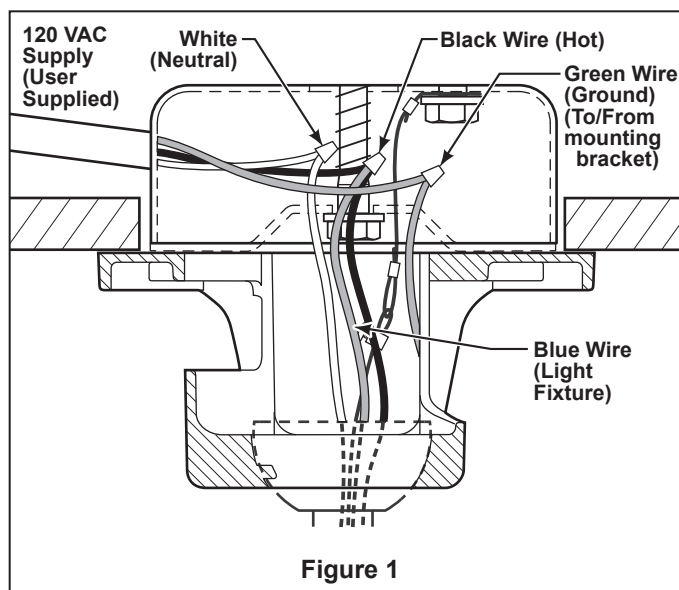

Figure 1
3. Securely connect the white wire from the fan motor to the white supply (neutral) wire using wire connector supplied (Figure 1).
4. Securely connect the black fan motor wire and blue wire to the black supply wire using wire connector supplied (Figure 1).